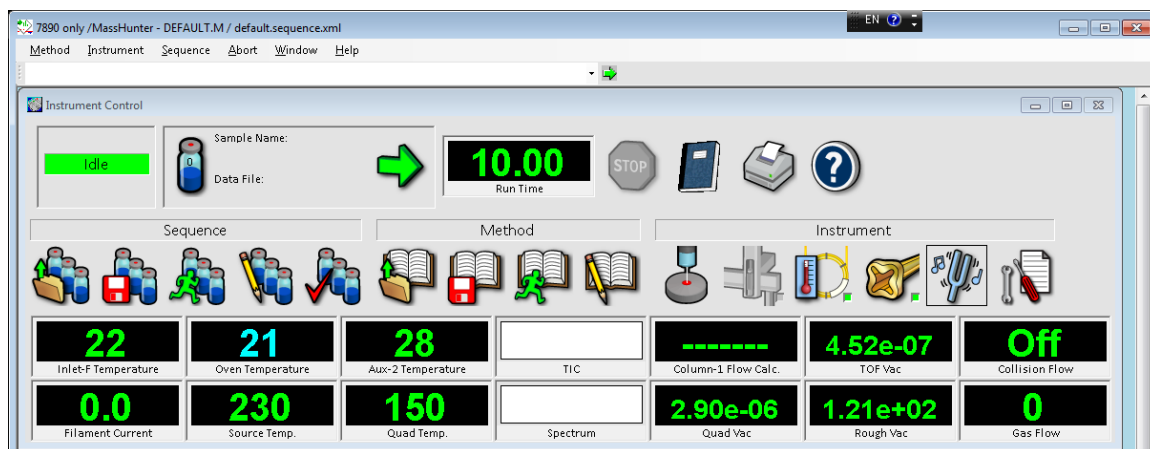

Figure 12 Arranging monitors
- 10 Select **Window > Arrange Plots and Monitors**, or click and drag each monitor to the desired position. See Figure 12 for one way of arranging the monitors.